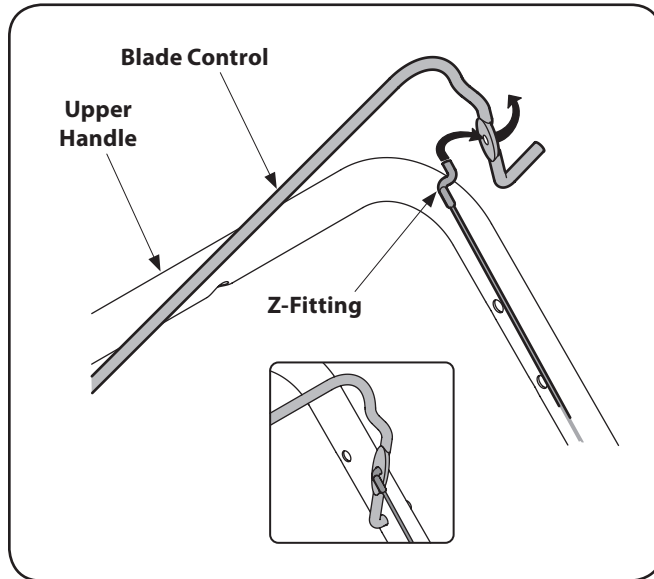

Figure 3-6
1. To make it easier to attach the Z fitting, temporarily remove the left side of the blade control as shown in Fig. 3-6.
2. Hook the Z end of the brake cable into the control from the inside to outside. See Fig. 3-6.